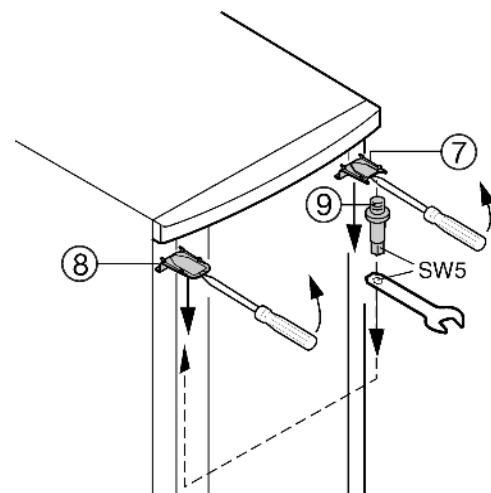

Fig. 5
- ▶ Disengage the top cover Fig. 5 (7) and cover Fig. 5 (8) in a forward direction using a screwdriver and remove them downwards at an angle.
- ▶ Unscrew the bearing pin Fig. 5 (9) and screw it into the opposite side **tightly to at least 4 Nm**. To do this, use the Allen screw on the spanner wrench provided.
- ▶ To re-fit the cover Fig. 5 (7) to the side where the bearing pin is located: insert it at the back and engage it at the front.
- ▶ To re-fit the cover Fig. 5 (8) at the opposite side: insert it at the back and engage it at the front.
- ▶ Attach the door to the bearing pin Fig. 5 (9) and close the door.